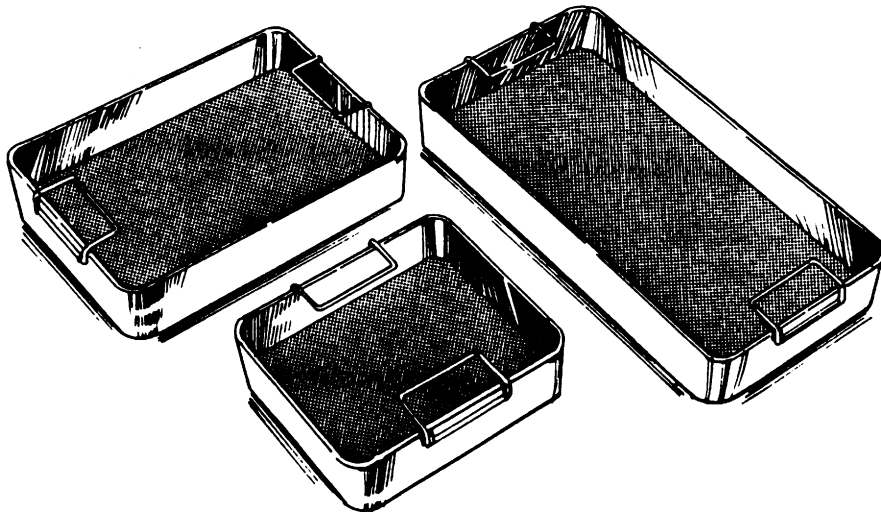

Figure 2. USE MESH-BOTTOM TRAYS.
- c. Use a mesh-bottom tray or equivalent (Figure 2) large enough to equally distribute instruments in a single layer.